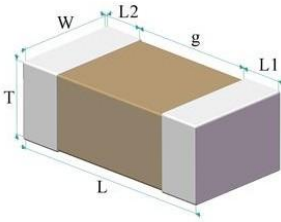

Fig.1 Structure & Dimension
| 2   | Size Code                                 | See Fig.1 and ② Size Code                                                                                                                                                                                                                                                        | Measuring by gages which precision is not less than 0.01 mm.                                                                                                                                                                                                                                                                |